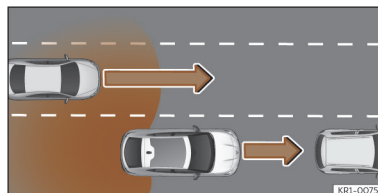

Fig. 132 Overtaking with traffic behind the vehicle.
- When being overtaken by another vehicle >>> **Fig. 132**.